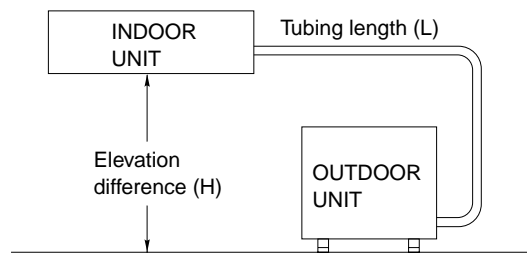

Fig. 3a
- install the unit within the maximum elevation difference (H) above the outdoor unit and within a total tubing length (L) from the outdoor unit as detailed in Table 3 and Fig. 3a.